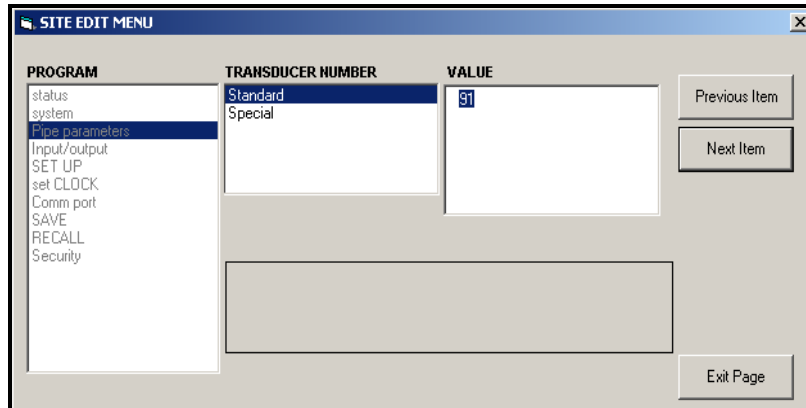

Figure 37: Pipe Parameters Option in Site Edit Menu
- a. Highlight and double-click on the desired option in the left pane. Figure 37 shows the first entry (Transducer Number) in the *Pipe parameters* option. The title above the center pane lists the current entry, while the center pane displays the available selections for that entry.